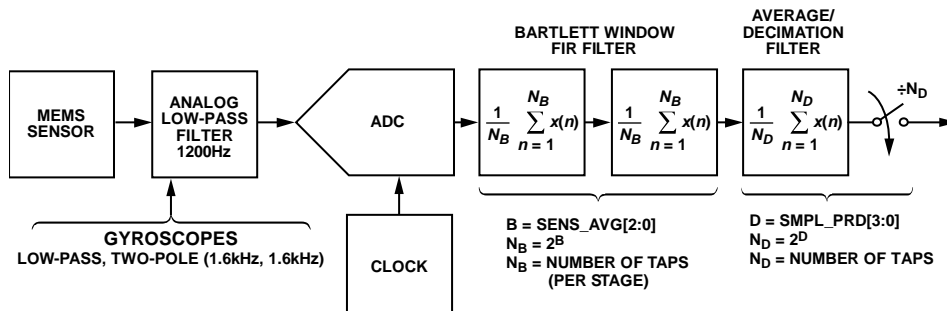

Figure 19. Signal Processing Diagram
The GYRO_OUT2 register (see Table 10) captures the bit growth associated with the decimation filter (see Figure 19) using an MSB justified format. The bit growth starts with the MSB (GYRO_OUT2[15]), is equal to the decimation rate setting in SMPL_PRD[3:0] (see Table 17), and grows in the LSB direction as the decimation rate increases.
Figure 19 provides a signal processing diagram that describes all of the user-configurable options, which influence sample rate and the frequency response. Using the factory default settings for the SMPL_PRD and SENS_AVG registers, the effective sensor bandwidth is 360 Hz.
[3:0]	Decimation setting (D), see Figure 19
response (see Figure 19). For example, set SENS_AVG[2:0] = 100 (DIN = 0xB804) to set each stage to 16 taps. When used with the default sample rate of 2429 SPS (no decimation), this reduces the bandwidth of the digital filter to approximately 49 Hz. The minimum setting for this filter is two taps per stage (SENS_AVG[2:0] ≥ 001).